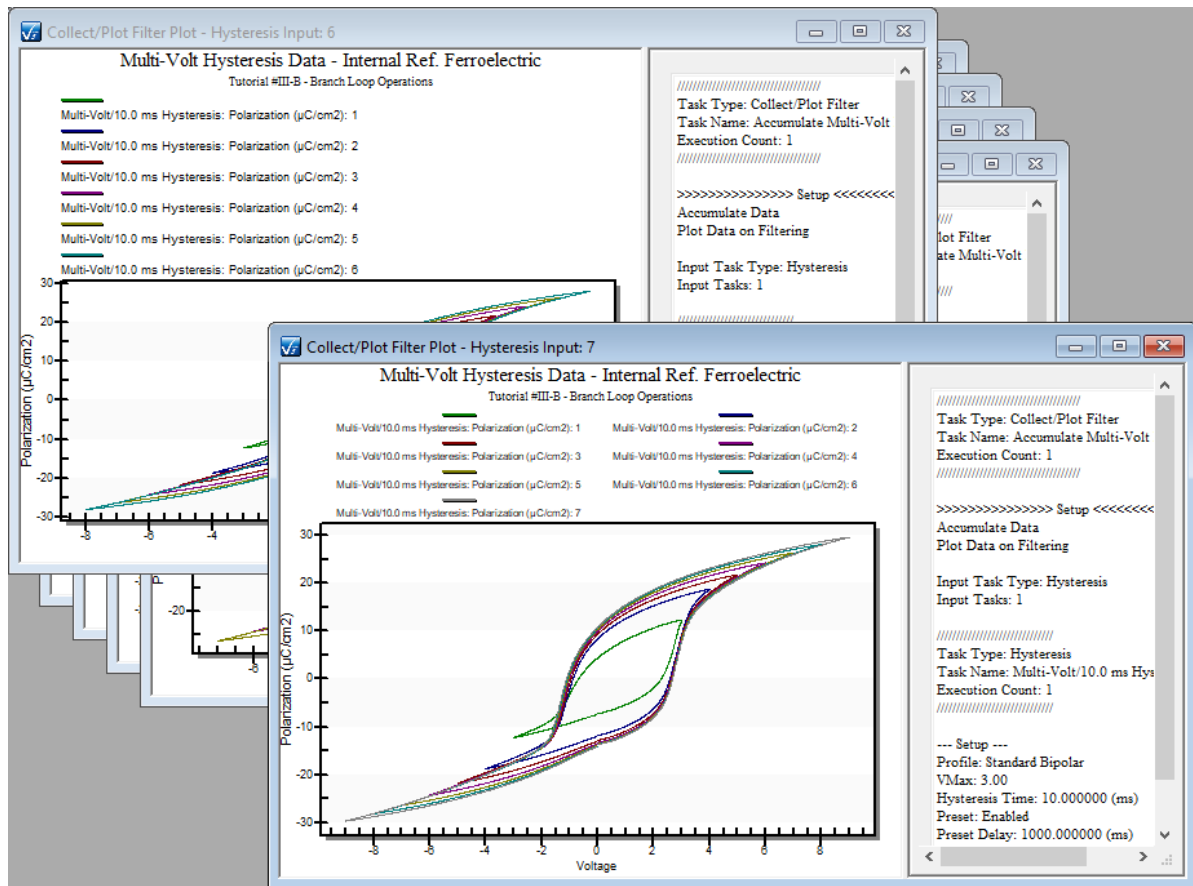

Figure 12 - Vision After Execution in Accumulate Mode.
5. Execute the CTD. When the experiment has finished, the Vision program screen will appear as in **Figure 12**.